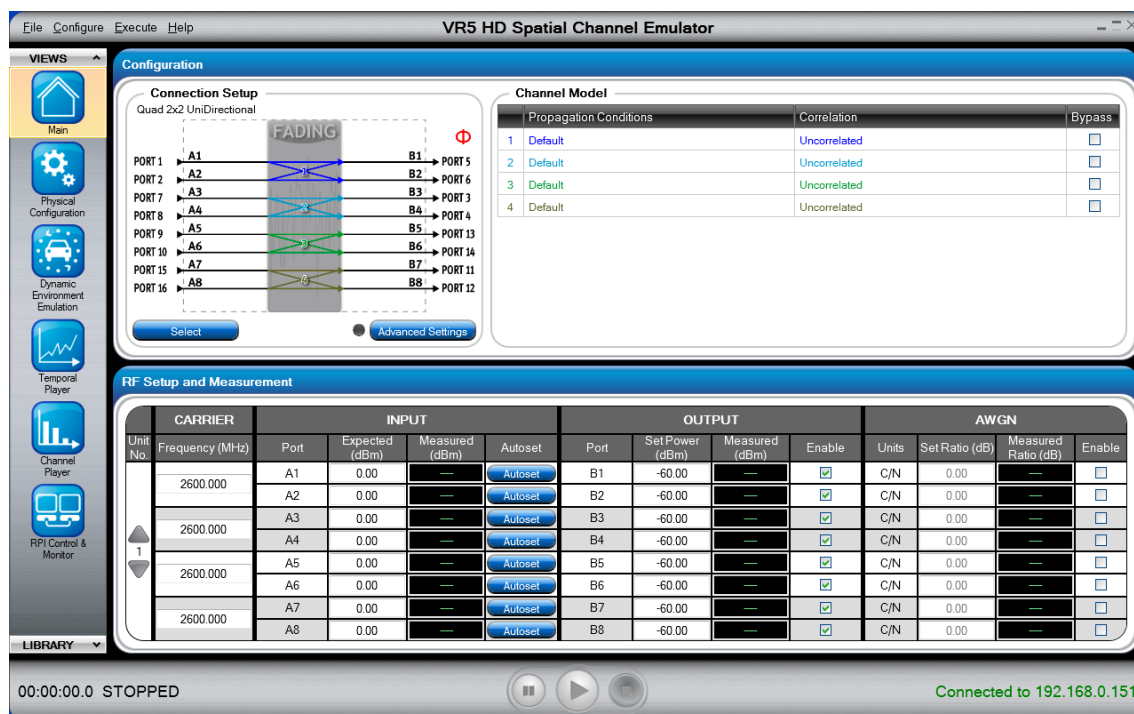

Figure 3-7: VR5 HD Main Window
4. The *VR5 HD Main* window displays, as shown in Figure 3-7.